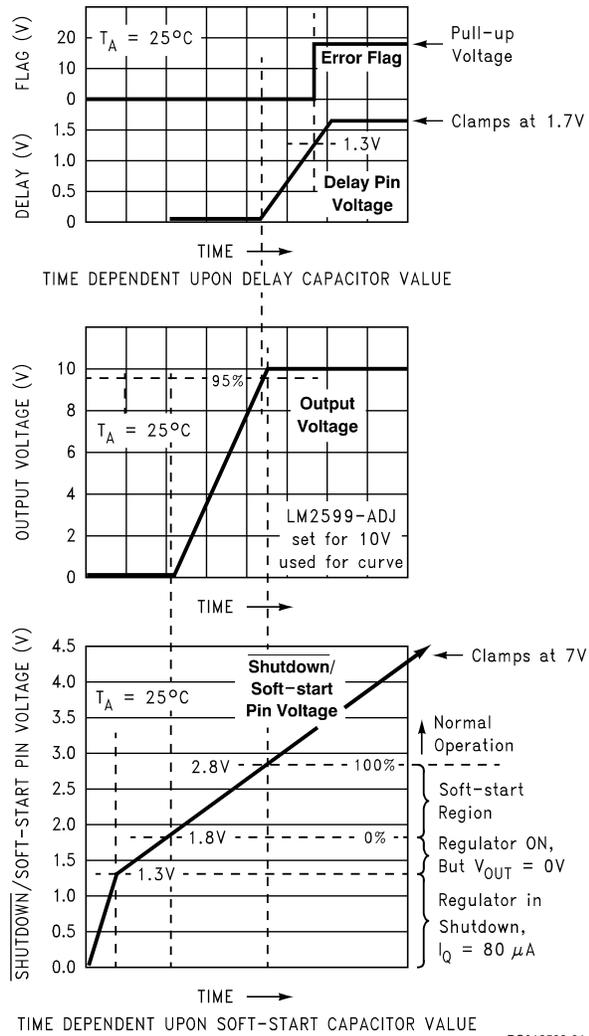
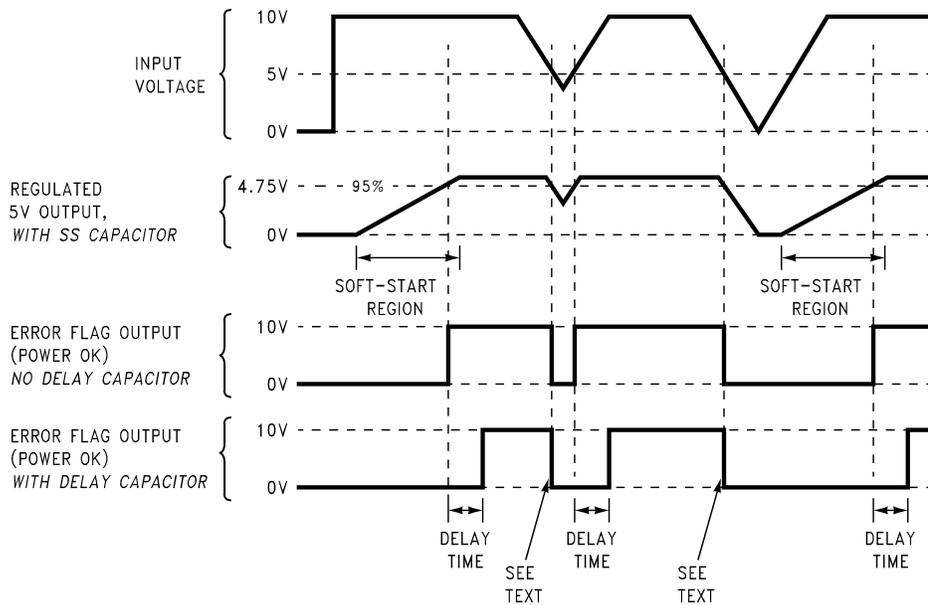

FIGURE 13. Soft-start, Delay, Error, Output
FIGURE 14. Timing Diagram for 5V Output
C_{SS} —A capacitor on this pin provides the regulator with a Soft-start feature (slow start-up). When the DC input voltage is first applied to the regulator, or when the Shutdown /Soft-start pin is allowed to go high, a constant current (approximately $5 \mu A$) begins charging this capacitor). As the capacitor voltage rises, the regulator goes through four operating regions (See the bottom curve in Figure 13).
3. Soft-start Region. When the \overline{SD} /SS pin voltage is between 1.8V and 2.8V (@ 25°C), the regulator is in a Soft-start condition. The switch (Pin 2) duty cycle initially starts out very low, with narrow pulses and gradually get wider as the capacitor \overline{SD} /SS pin ramps up towards 2.8V. As the duty cycle increases, the output voltage also increases at a controlled ramp up. See the center curve in Figure 13. The input supply current requirement also starts out at a low level for
Note: The lower curve shown in Figure 13 shows the Soft-start region from 0% to 100%. This is not the duty cycle percentage, but the output voltage percentage. Also, the Soft-start voltage range has a negative temperature coefficient associated with it. See the Soft-start curve in the electrical characteristics section.
C_{DELAY} — Provides delay for the error flag output. See the upper curve in *Figure 13*, and also refer to timing diagrams in *Figure 14*. A capacitor on this pin provides a time delay between the time the regulated output voltage (when it is increasing in value) reaches 95% of the nominal output voltage, and the time the error flag output goes high. A 3 μA constant current from the delay pin charges the delay capacitor resulting in a voltage ramp. When this voltage reaches a threshold of approximately 1.3V, the open collector error flag output (or power OK) goes high. This signal can be used to indicate that the regulated output has reached the correct voltage and has stabilized.